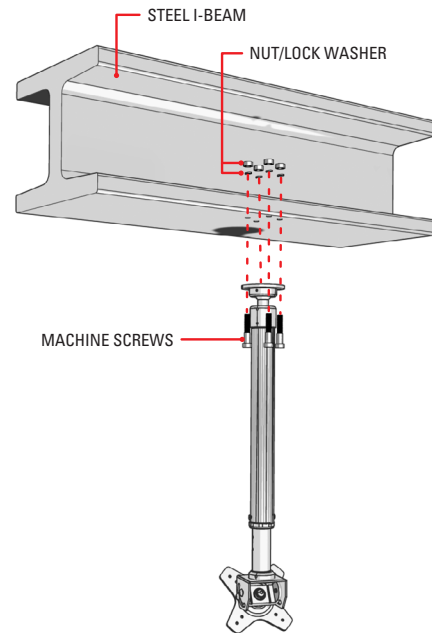

Figure 2. Attaching the Mount to I-beam Ceiling
- (1) Use the mounting flange as a template to mark the mounting holes on the I-beam.
- (2) Attach the mounting flange to the I-beam using 1/4-20 x 1-inch machine screws with nuts as shown in Figure 2. Depending on the size of the I-beam, machine screws longer than one inch may be required.